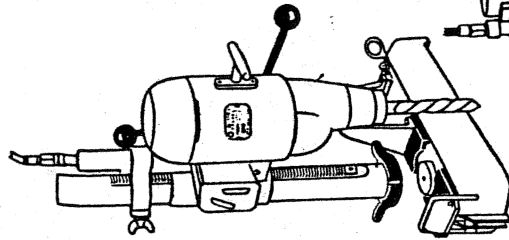
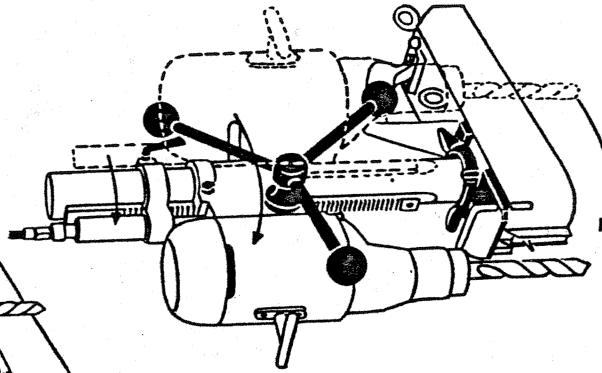
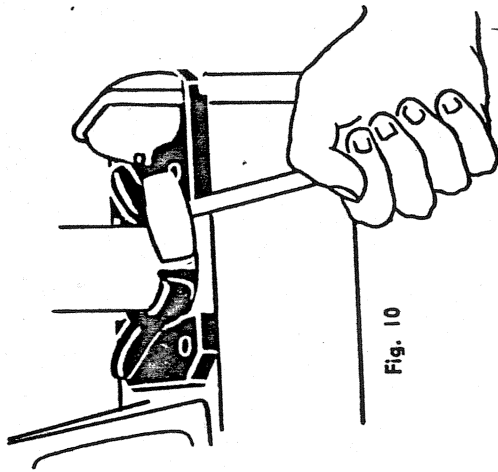

Fig. 8
Fig. 9
Fig. 10
5. The drill and column assembly should now be inserted into place. This is done by placing lower end of column over column locating boss Fig. 8. Note: The drill motor must be in a 90° counter-clockwise position from the point locator. The drill unit is then turned 90° clockwise. Stops are provided in the base which position the drill accurately in line with the drill point locator Fig. 9. It is important that the drill unit be turned until it hits these stops—tighten wing nut securely with column in this position Fig. 10.